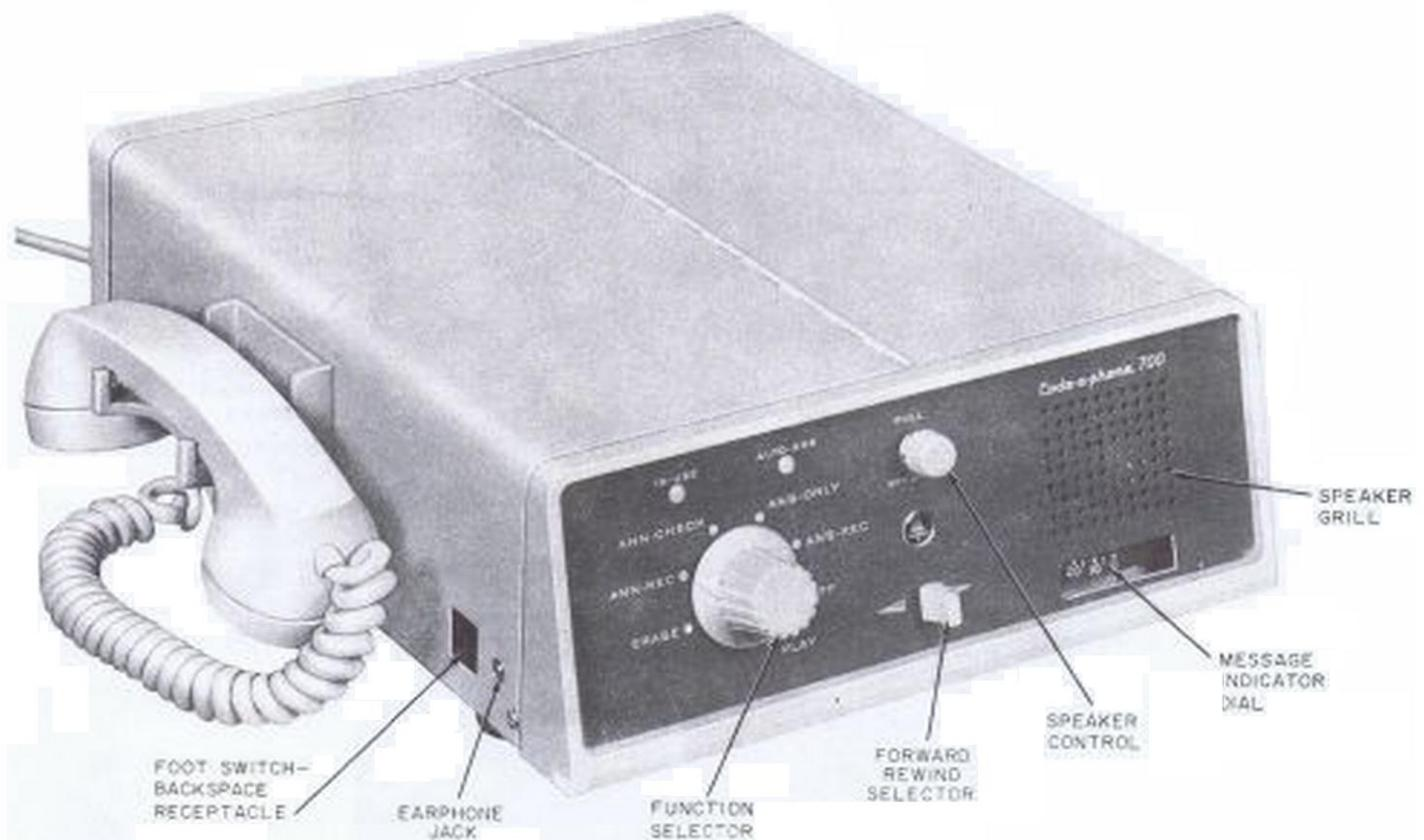

Fig. 1—KS-19245, List 1 Telephone Answering Set
1.01 This section contains installation and connection information for the KS-19245, List 1 telephone answering set (Fig. 1).